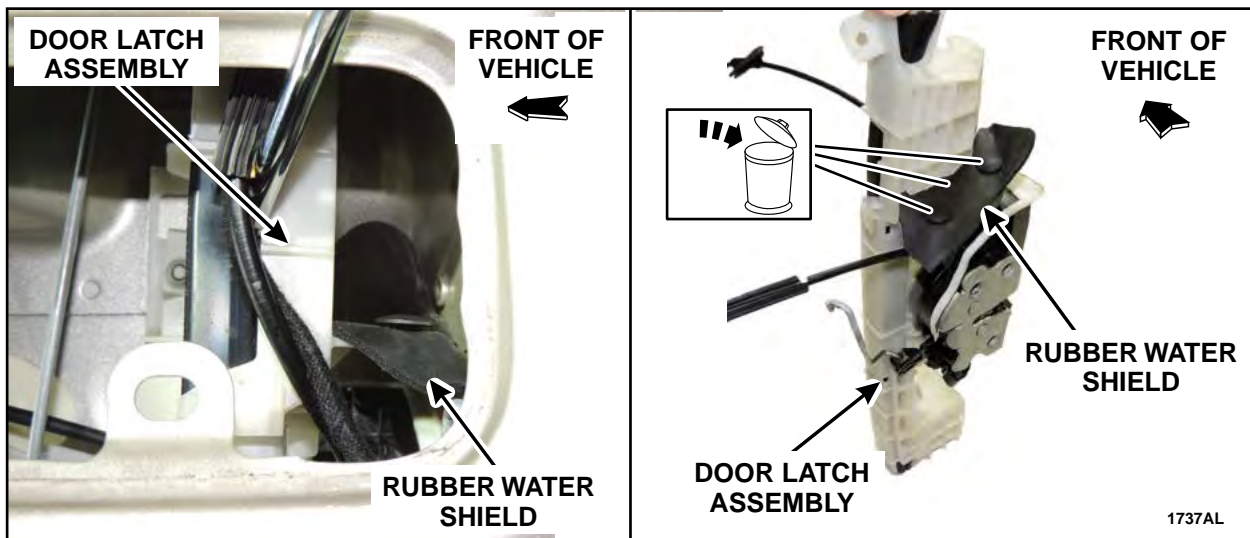

FIGURE 2
3. Through the exterior front door handle opening, inspect for a rubber water shield installed on top of the door latch. See Figure 2.